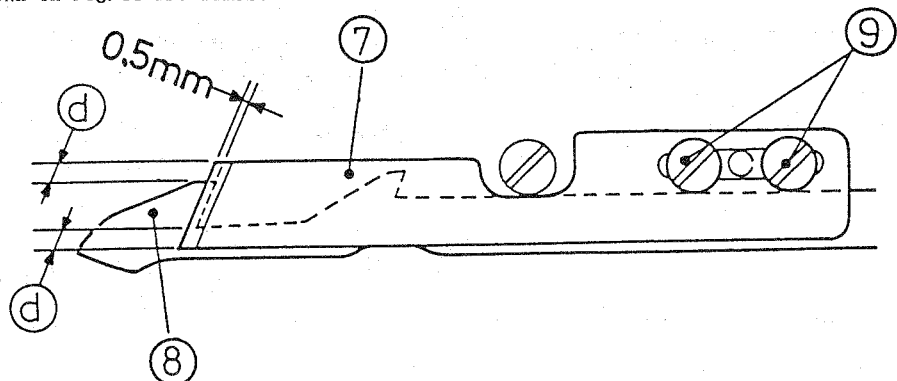

Fig.44
[4] RELATIONSHIP BETWEEN UPPER AND LOWER KNIVES (Fig.44)
With lower knife ⑧ at the extreme right end of its travel, position lower knife ⑧ and upper knife ⑦ as shown in Fig.44 (parallel with each other when overlapping and the overlap is 0.5mm). Loosen screws ⑨ and adjust upper knife ⑦.
Note: Make sure distances (d) shown in Fig.44 are almost equal.